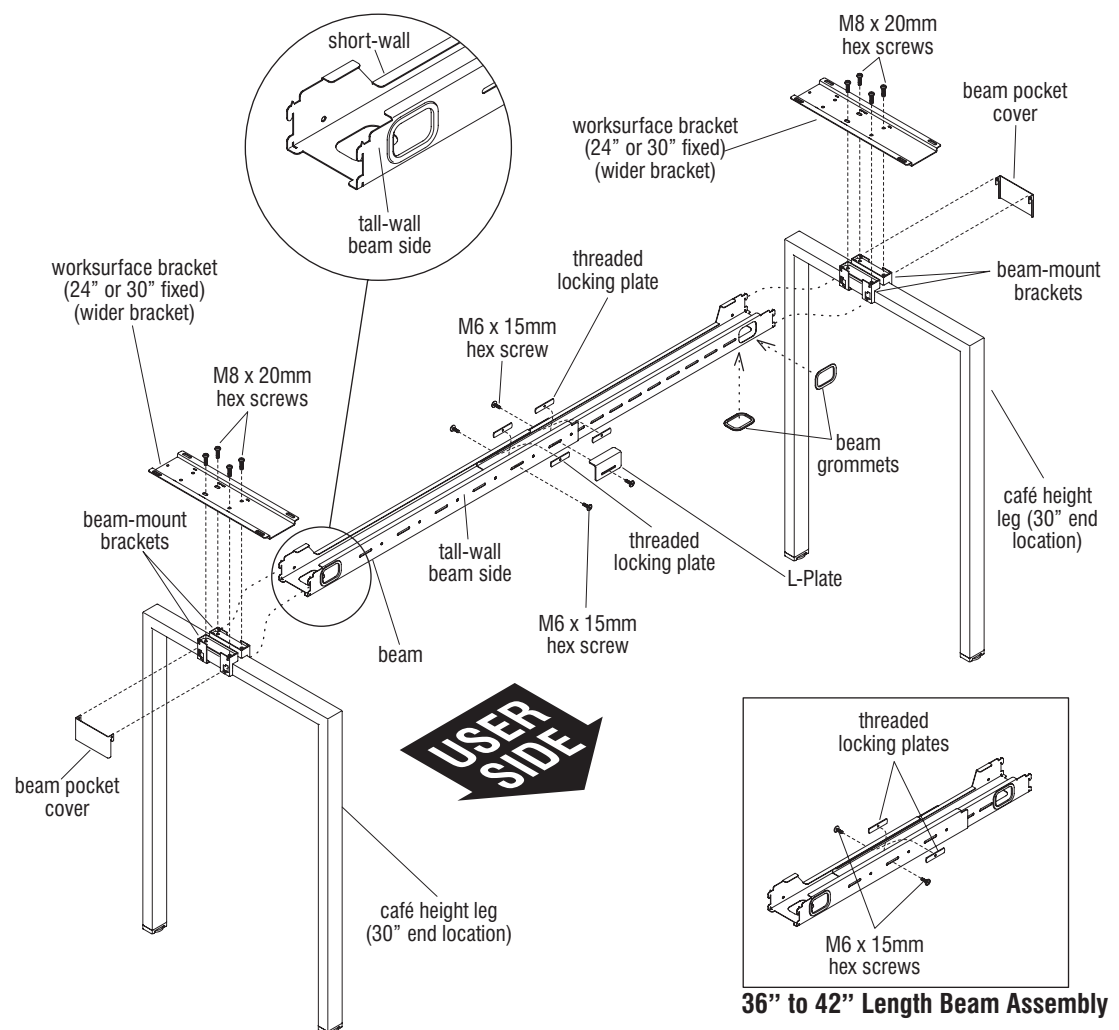

Figure 3 - Single-Sided Fixed Café Height Benching Support Legs & Beams
1. Carefully unpack Connection Zone café height components, review the space-planning layout and study Figures 3 & 4 to identify parts to assemble. Position café height legs and beams onto the floor per the space-planning layout (Figures 3 & 4).
Note: Legs for 24" table depths (not shown) are non-handed, so can be used on either the right- or left-hand side. Legs for 30" table depths will have off-center beam-mount brackets at the horizontal top. The longer horizontal member must be positioned toward the user side, as does each beam's tall-wall side (Figure 3).
2. With the tall-wall side of the beam positioned correctly facing the user-side, insert the beam ends into the beam-mount brackets at the top of each correctly positioned leg. Using a 1½" diameter, weighted hard-rubber mallet, tap down on the vertical wall at the mounting end of the beam until you hear the beam bottom-out, so it is properly nested in the support leg mounting bracket (do not hammer on the ½" formed top flange) (Figure 3).
bracket over the beam-mount bracket and secure using four M8 x 20mm hex-drive screws (Figures 3 & 4).
Important: For beams that are 36" to 42" in length, no L-plate is required and only two threaded locking plates with two M6 x 15mm Torx screws are used (see inset detail, Figure 3).
To achieve the correct length, measure from the far outside end of one end worksurface bracket to the far outside end of the opposite end worksurface bracket, or to the center of a shared location leg if an adder is used (Figures 3 & 4).
Important: The screws into threaded locking plates, when installed into holes and slots should allow at least 1/4" of side-to-side play, and be located nearest the ends of both inner and outer members to provide the greatest stability. Twist screws in only finger-tight at this time (Figures 3 & 4).
8. At both ends of the beam, on the tall-wall side and at the beam underside, install two plastic beam grommets into the wire-access holes, positioning the larger flange to the outside when nesting into place (Figures 3 & 4).